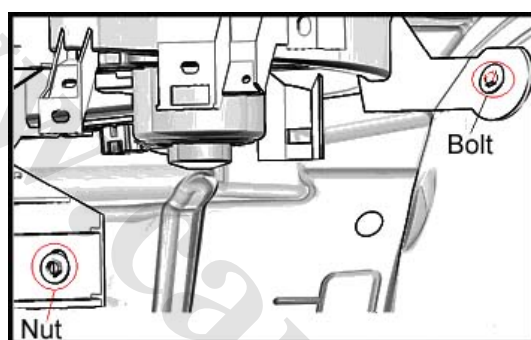

Figure 6-22
(12) Disassemble bolts and nuts in the following figure, then the air conditioner housing can be taken out. See Figure 6-22.